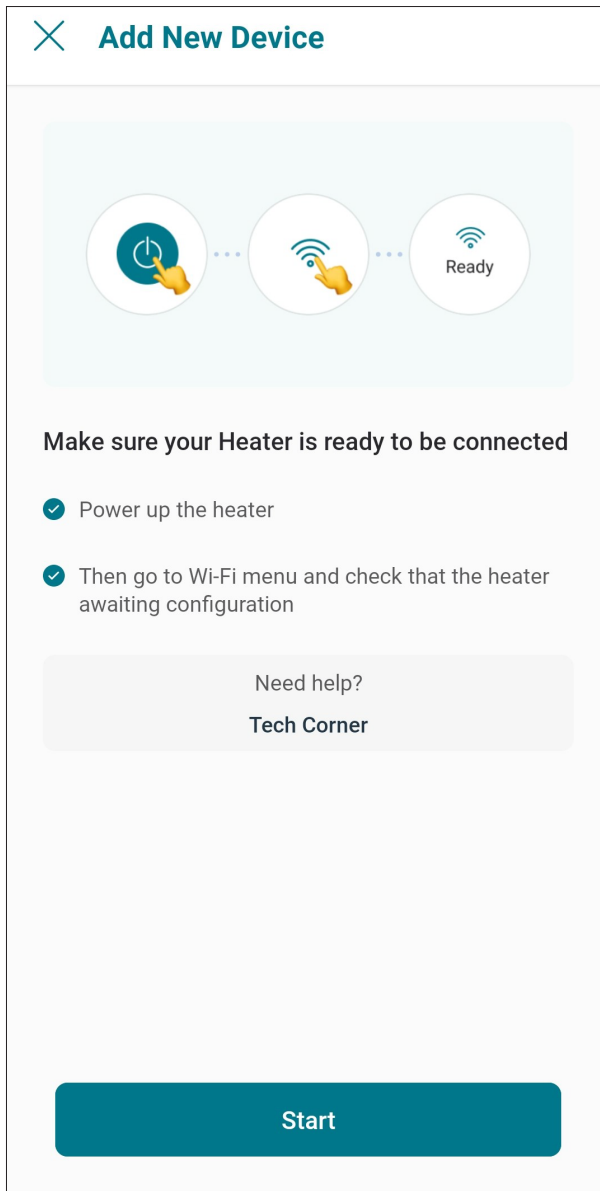

Figure 114. Check your Unit
- "Check your Device" screen will appear. Ensure to have the heater powered and Wi-Fi signal available in the area, then press "Ready" button. See **Figure 114**.